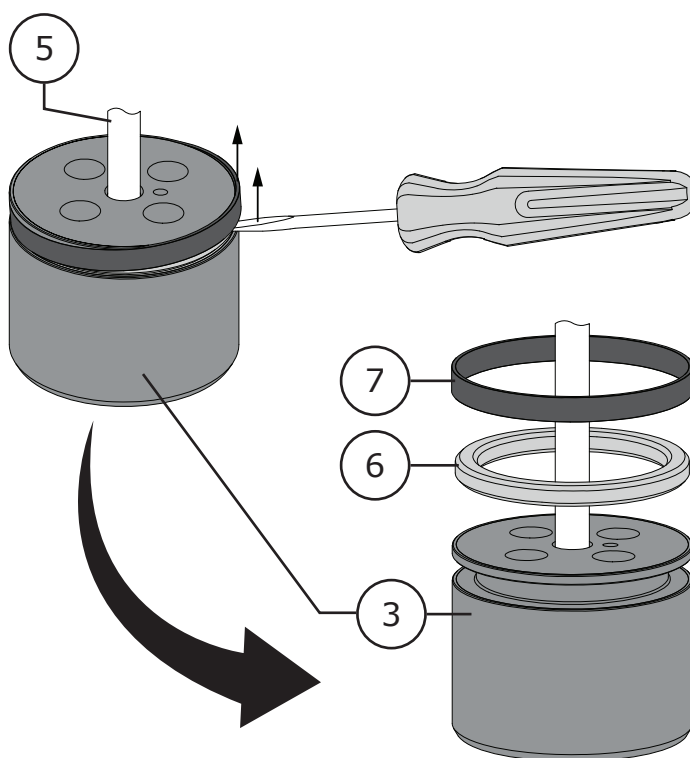

Figure 11 Two-Piece Plug Seal Ring Removal (Model 360)
- 1 Carefully remove the seal ring (Key 7) from the plug groove, a pick set or flat screw driver may be required. Refer to Figure 11.